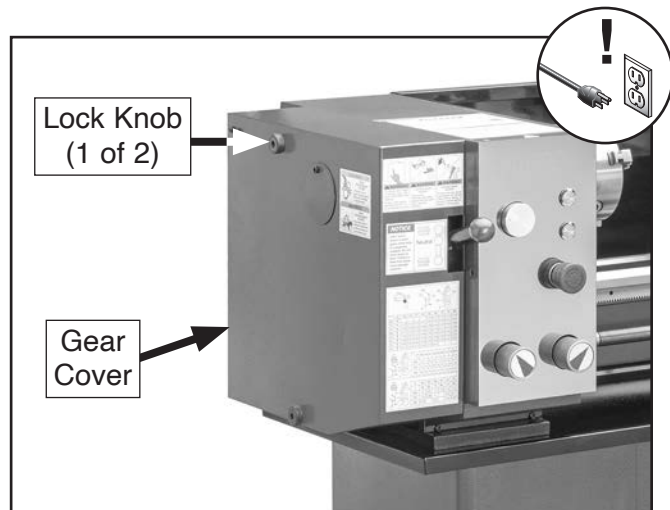

Figure 88. Location of gear cover and lock knobs.
4. Remove gear cover lock knobs to remove gear cover (see **Figure 88**).